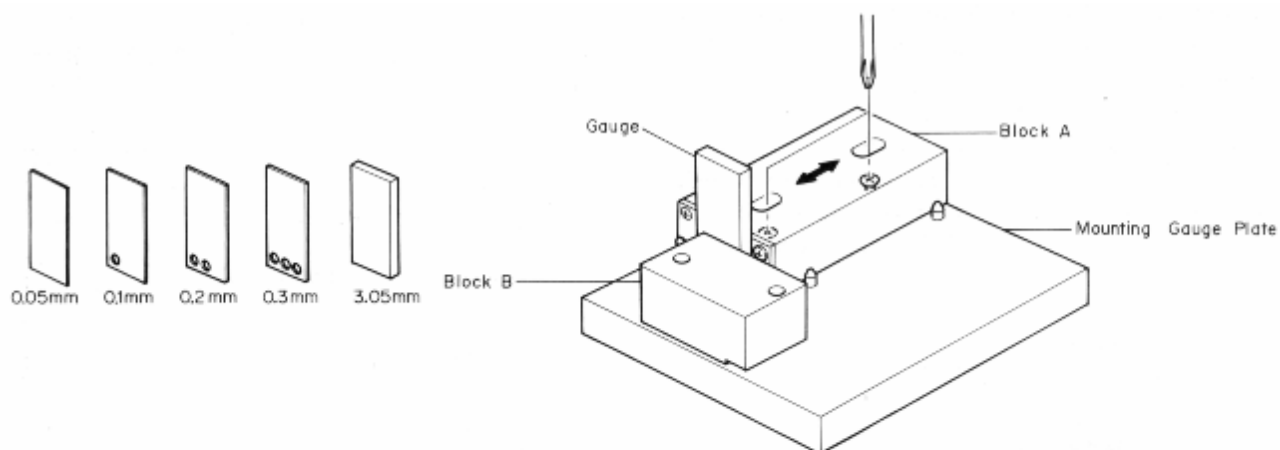
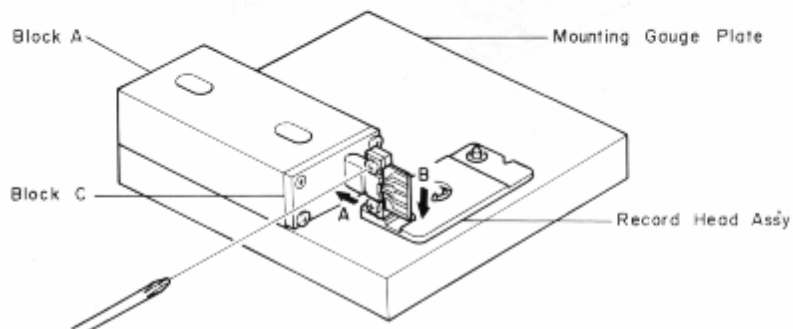

Fig. 5.14
Fig. 5.15
Refer to Figs 5.14 and 5.15.
- (1) Check the accuracy of the record head stroke.
- (2) Remove Head Mount Base Ass'y referring to item 3.22.
- (3) Remove the record head assembly.
- (4) Adjustment of Record Head Mounting Gauge M-9048 (DA09048A)
- (c) As shown in the Fig. 5.14, hold the Gauges (3.05 mm and either one of 0.05, 0.15, 0.2, 0.25, 0.3 or 0.35 mm thickness) between the Block A and Block B, fix the Block A with screw, pushing the Block A to the 2 guide pins.
- (5) Remove the Block B from the Mounting Gauge Plate.
- (6) As shown in the Fig. 5.15, mount the R-8L record head assembly onto the Mounting Gauge Plate, then check the location of the R-8L record head surface. (If record head contacts to the Block C, loosen 2 pcs. of screws that assembled record head and R-8L record head assembly, then place the R-8L record head assembly onto the Plate.)
- (7) Remove the R-8L record head assembly from the Mounting Gauge Plate.
- (8) Readjustment of Record Head Mounting Gauge M-9048 (DA09048A)
- (9) Remove the Block B from the Mounting Gauge Plate.
- (10) Mount the R-8L record head assembly onto the Mounting Gauge Plate.
- (11) As shown in the Fig. 5.15, loosen the R-8L record head with 2 pcs. of screws onto the record head plate. As the location of the Block A is secured by the item (8) - (c), push the record head to the directions A and B, then tighten 2 pcs. of screws.
- (12) Check to insure freedom from gap between the Block C and record head surface, then tighten the 2 pcs. of screws on the record head plate with lock tight paint.
- (13) Assemble the record head assembly to the head mount base assembly.
- (14) Assemble the head mount base assembly to the mechanism assembly.
- (15) Check the record head stroke.